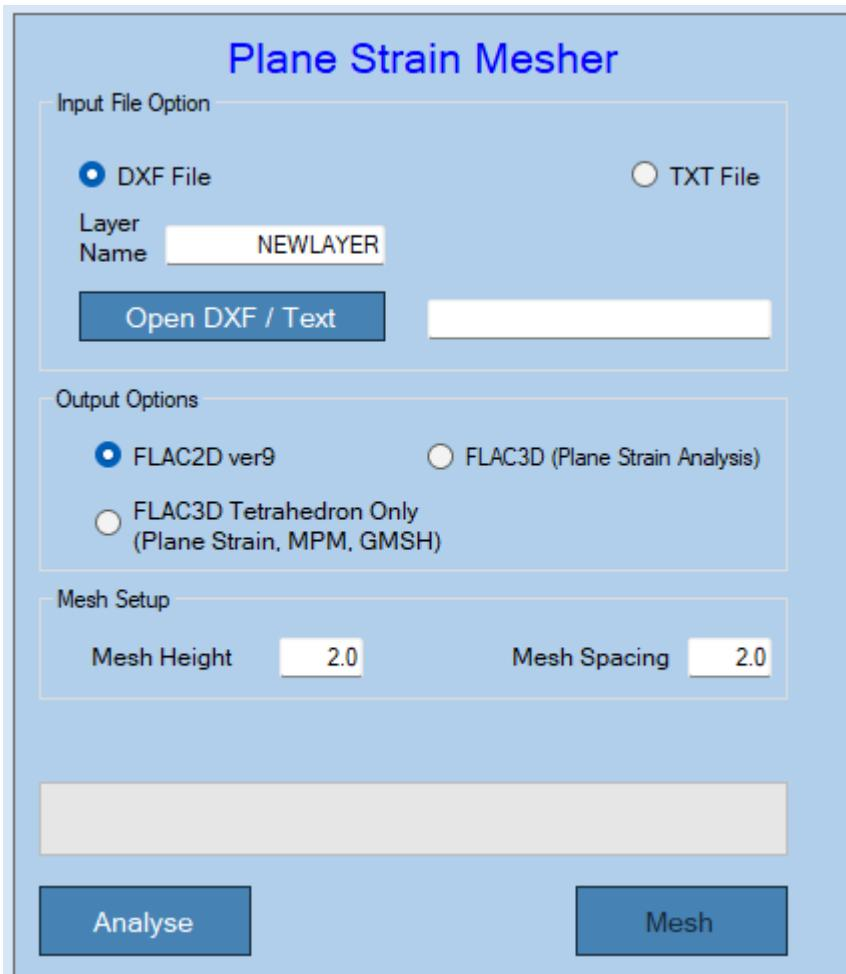

Figure 36: Plane Strain Dialog Window.
This option creates meshes for Plane Strain analysis, either in FLAC3D or in FLAC2D. The dialog window is shown in Figure 36. This option uses DXF files for creating all layers in the Plane Strain mesh.
- **Mesh:** Creates the Plane Strain mesh using the options defined in Figure 36.